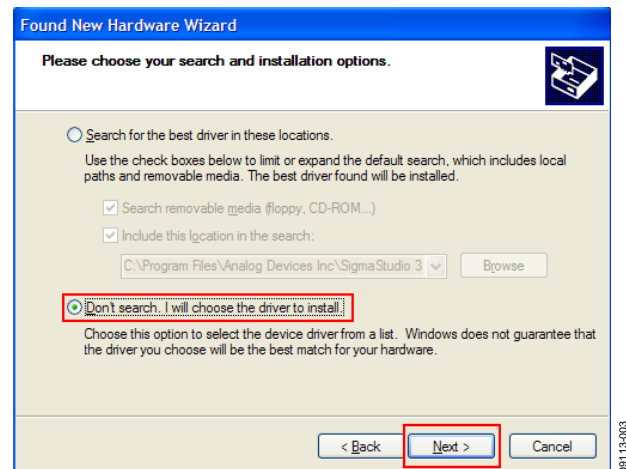

Figure 3. Selection of the Driver to Install
3. Select **Don't search. I will choose the driver to install** (see Figure 3), and click **Next**.